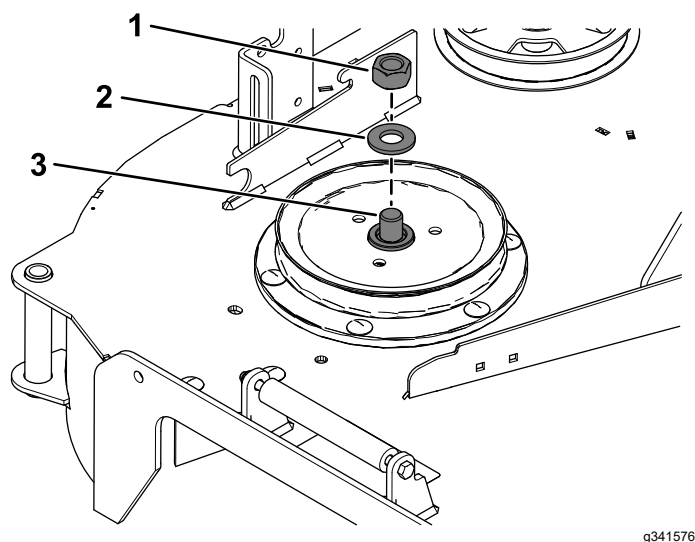

Figure 23
3. Use a wrench (1-1/2 inches) to hold the spindle shaft, as you remove the hex nut (3/4 inch) and washer from the spindle shaft (Figure 23).